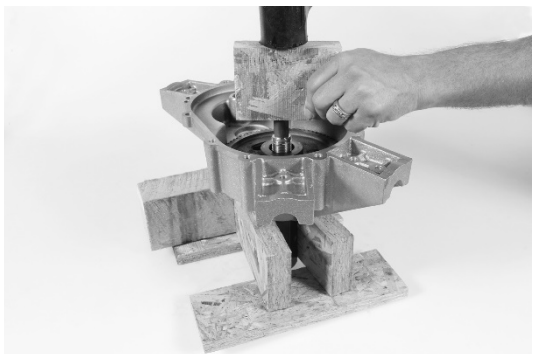

FIGURE 31
8. Using shop press/suitable blocking, support transmission case driveshaft area to prevent damage. As alternative, wood blocks and plastic hammer can be used. FIGURE 31